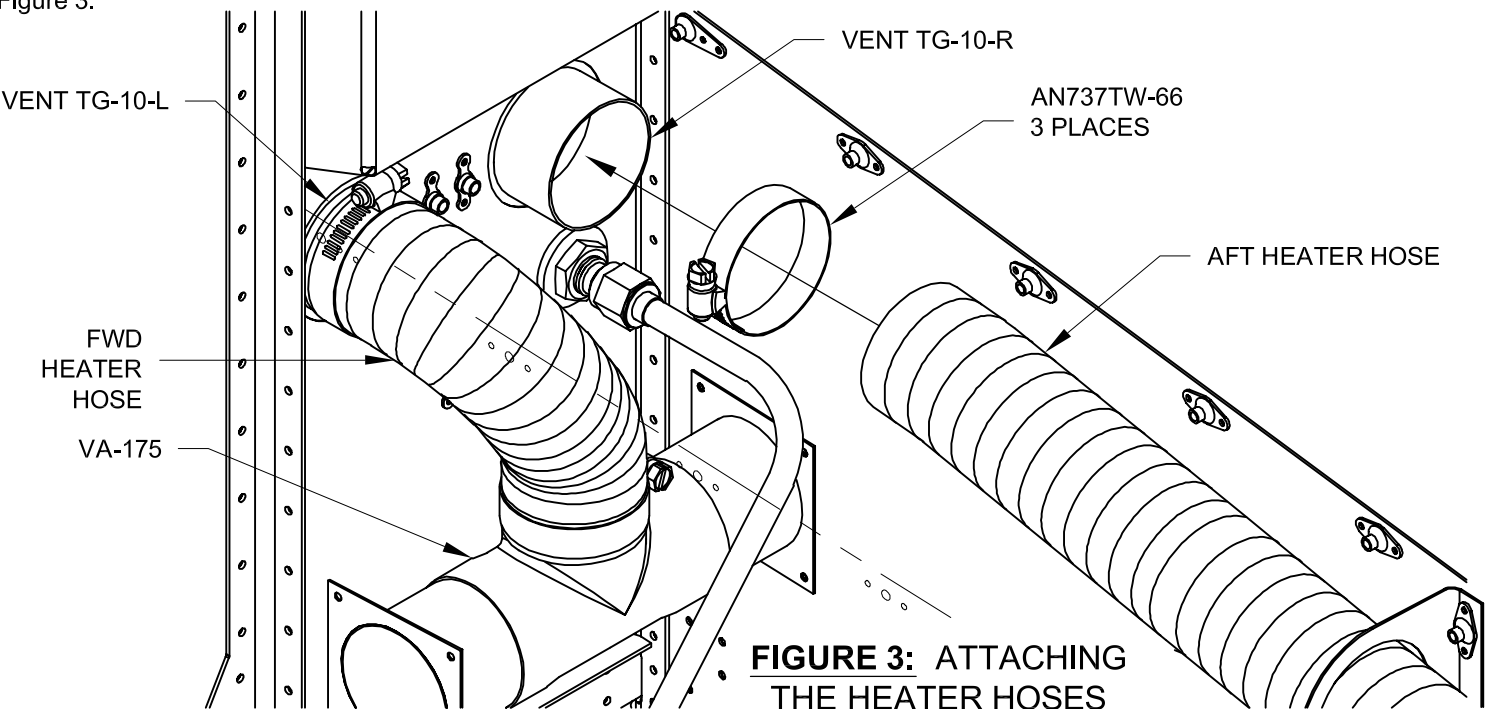

FIGURE 3: ATTACHING THE HEATER HOSES
Step 3: Cut a 10 inch (approximately) length of SCAT tube to use as the Forward Heater Hose. Secure the forward heater hose to the VENT TG-10-L Cabin Heat Selector Box and the forward VA-175 Heat Duct Tee using the hose clamps called-out in Figure 3.
Step 4: Cut a 54 inch (approximately) length of SCAT tube to use as the Aft Heater Hose. Thread the aft heater hose through the F-1051J SCAT Tube Support, then secure it to the VENT TG-10-R Cabin Heat Selector Box using the hose clamp called-out in Figure 3.